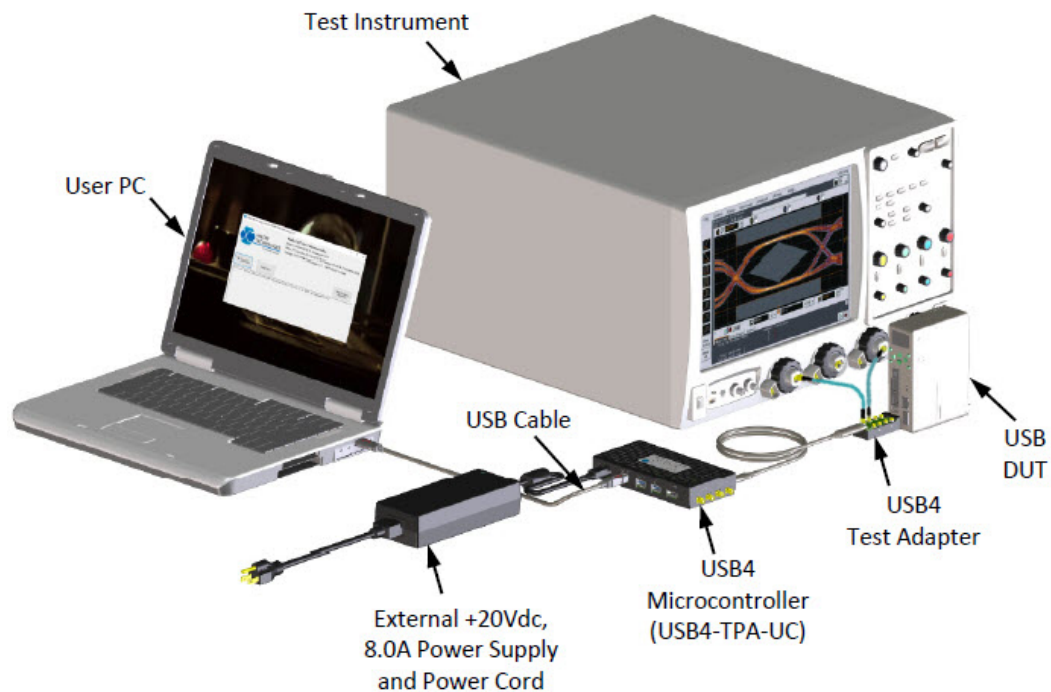

Figure 86 Transmitter TP2/TP3 Test Setup
- 1 For the physical connection between the DUT & the Oscilloscope, see Figure 86 and for configuring the USB4 Test Application, see "Setting up the USB4 Test Application" on page 48.
- 1 Connect the DUT to the Oscilloscope as shown in the Figure 86.